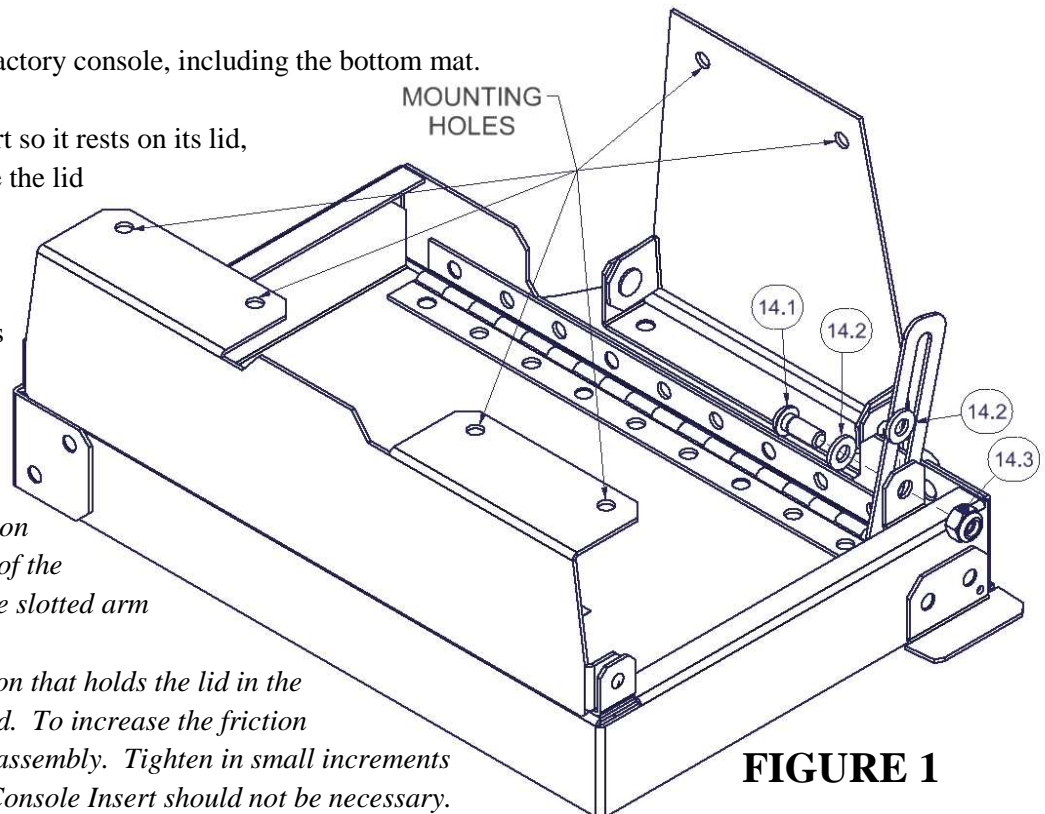

FIGURE 1
3. Invert the #354 Console Insert so it rests on its lid, expand the legs and assemble the lid support hardware (Found in the Key Bag), as shown in **Figure 1**. Tighten the hardware in small increments so that the lid remains supported as you require (usually self-supporting at a 45 degree lid angle).
8. With the front and rear legs fully extended, and in contact with the plastic interior of the factory console, mark the mounting hole locations in the legs (*a silver marker works best*). See **Figure 1 for Hole Locations**